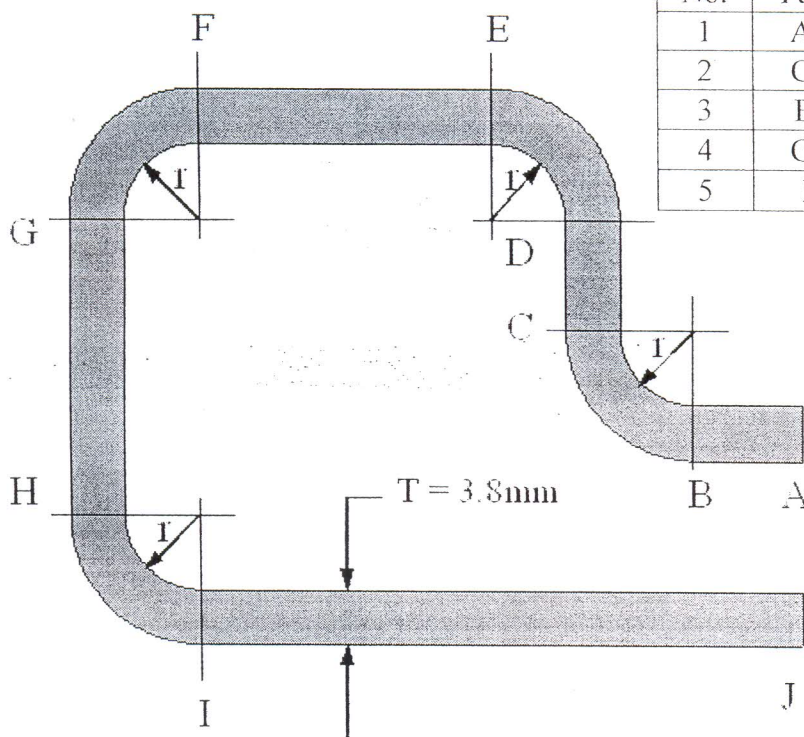

Figure 3 A Four-bend Channel
- a) Calculate the length of the blank required to form the four-bend channel section as shown in Figure 3. Approximate values for the neutral line are given in Table 2. The thickness of the metal, $T = 3.8\text{mm}$. Inside radius $r = 6.5\text{mm}$.